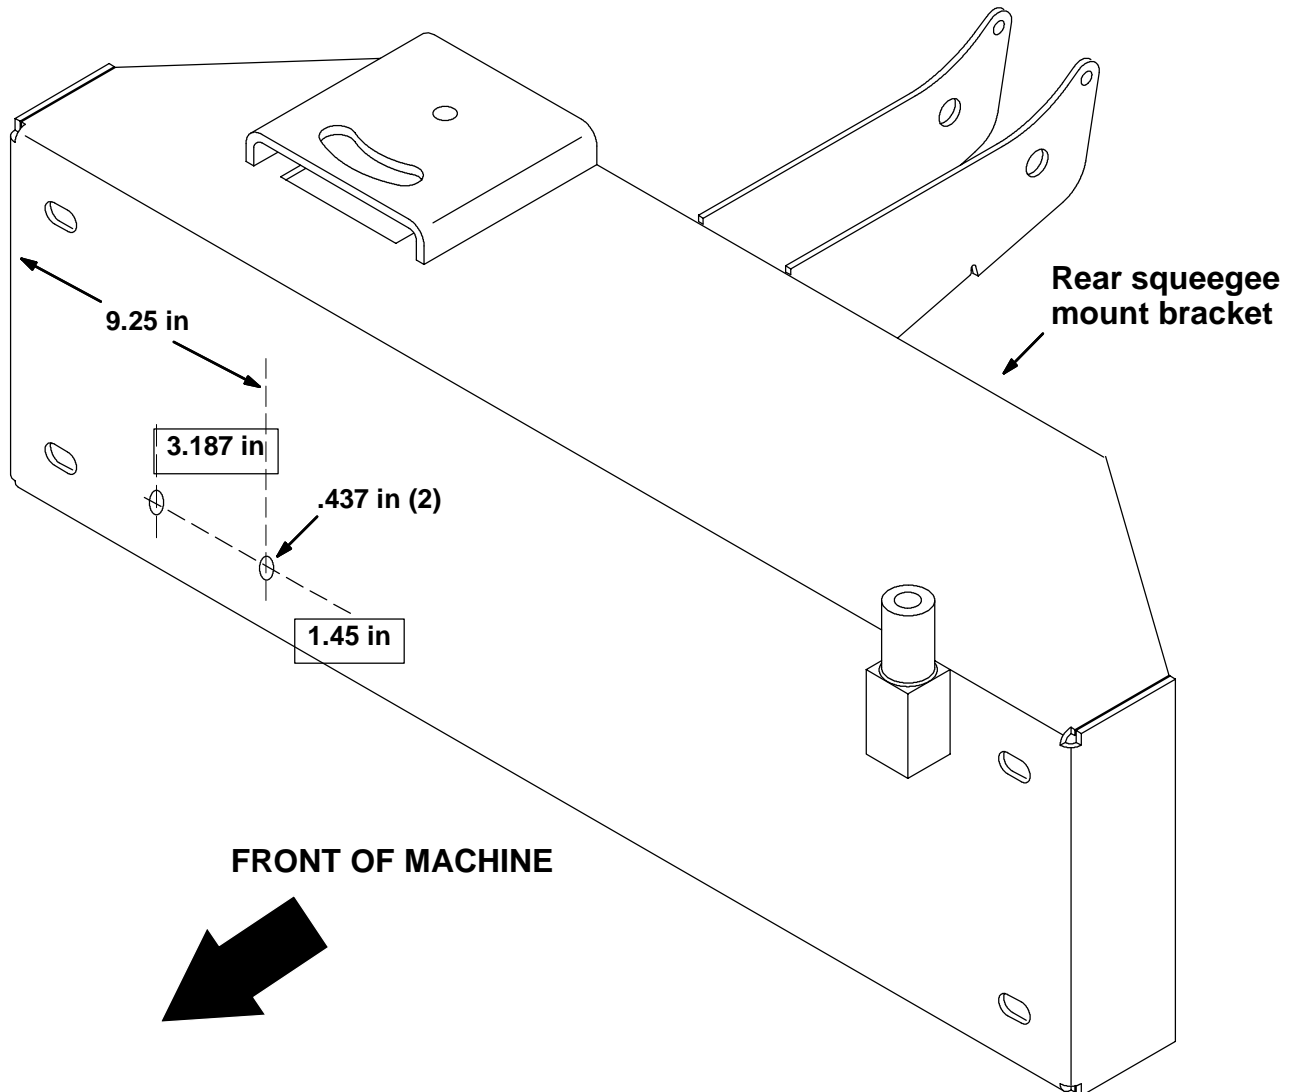

FIG. 4 - Rear Squeegee Frame Rework Dimensions
5. Use the dimensions in FIG. 4 to mark and drill the new ES pump (13) mount holes in the rear squeegee mount bracket. Drill the two mount holes .437 inch. (Refer to FIG. 4)
6. Install the new ES pump mount bracket (9) on the back side of the rear squeegee mount bracket (toward the front of the machine). Use the two hex screws (16), washers (17), and nuts (18). Tighten to 37 - 48 Nm (26 - 34 ft lb). (Refer to FIG. 4, 5, and 7)